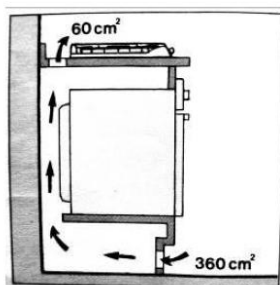
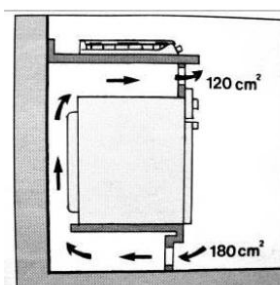

Fig. 5
Fig. 6
- i) In the case of installing an oven to fit under the gas plate, it is recommended to improve the ventilation around the oven, to avoid excessive heating, place a grid for the air intake from the bottom of the oven and another grid in the oven. upper part of the hob (Fig. 5) or in the front part of the oven (Fig. 6).